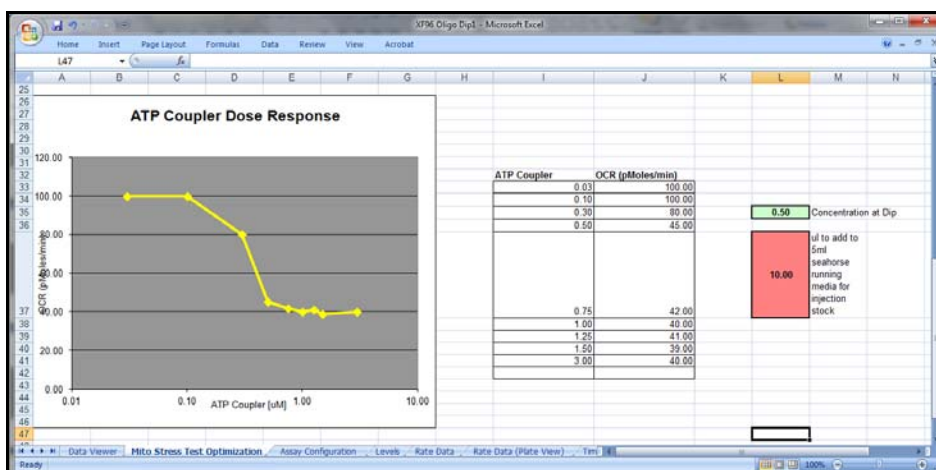

Figure 4.5
1. When the optimization experiment is complete, open the excel data output file, and choose the worksheet tab labeled 'Mito Stress Test Optimization' (see Figure 4.5).